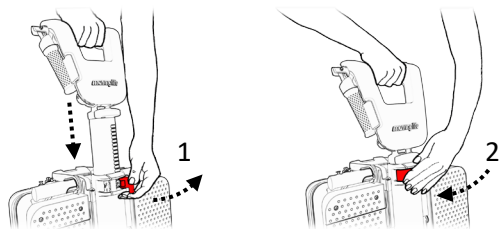

Figure 40
7. Pull the rod lever (1) to adjust the height of the handle bar to the lowest position and bring the lever back to the secure position (2). (See Figure 40).